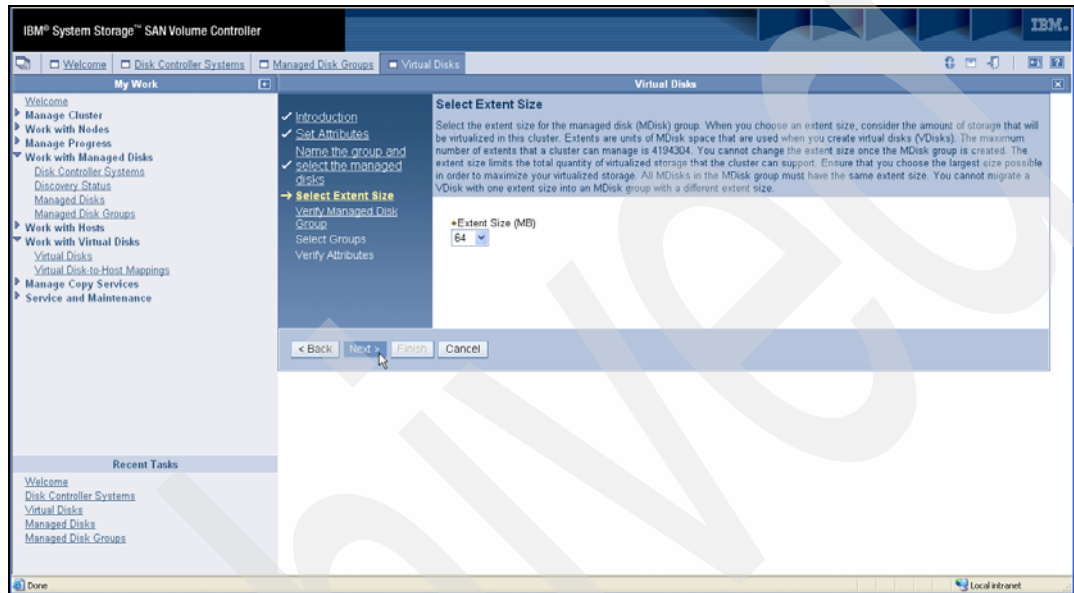

Figure 6-21 Create Image Mode VDisk select extent size
7. Figure 6-21 shows the panel where you define the extent size for the MDisk group. Once again, this will only appear if you are creating a new MDisk group as part of the process. Click **Next**.